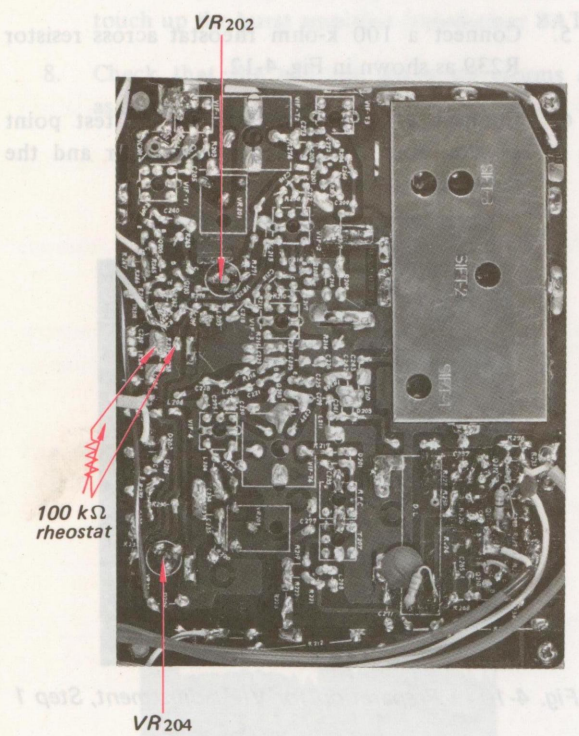

Fig. 4-12. Installation of 100 k-ohm rheostat to establish VIF bias
4. Turn the AGC controls VR-202 and VR-204 fully counterclockwise (maximum gain). See Fig. 4-12.
5. Connect a 100 k-ohm rheostat across resistor R239 as shown in Fig. 4-12.